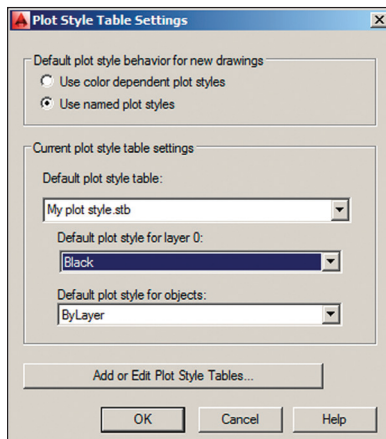

FIGURE 14.4 Configuring the default plot style behavior and settings for new drawings
2. Click the **Plot Style Table Settings** button in the lower right of the Options dialog box. Select the **Use Named Plot Styles** radio button in the Plot Style Table Settings dialog box that appears. Select **My plot style.stb** from the **Default Plot Style Table** drop-down menu. Select **Black** from the **Default Plot Style For Layer 0** drop-down menu. Select **ByLayer** from the **Default Plot Style For Objects** drop-down menu if it is not already selected (see Figure 14.4). Click **OK** and then click **OK** again to close both of the open dialog boxes.